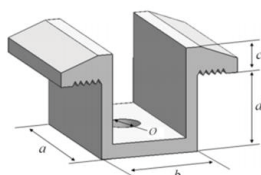
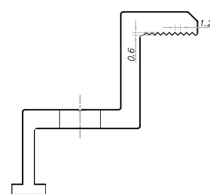

Figure 1
Figure 2 Schematic Diagram of
① Place the PV module on two racks (not provided). Which must be made of stainless steel or be treated with corrosion protection (e. g. hot-dip galvanized treatment). Each PV module needs at least 4 clamps to fix. During installation, please do not let the clamp directly contact the glass and deform the frame, otherwise it will result in PV module damaged.
② Be sure to avoid the shading effect of the PV module due to the shadow formed by the clamp. The drain hole shall not be covered by the clamp. The clamp must have an overlap of at least 10mm with the PV module frame (the section of the clamp can be changed on the premise of ensuring the reliable installation of the PV module).
③ The upper surface of the rack in contact with the PV module frame shall be provided with a groove matched with the M8 bolt.
④ If there is no groove on the rack, a hole of appropriate diameter shall be drilled at the position mentioned above for bolt fixing.
⑤ Make sure that the installation sequence of each clamp is flat washer, spring washer and nut.
⑥ Figure 1 shows the middle mounting clamp, and Figure 2 shows the edge mounting clamp and its cross section view. The size of the middle and side pressing blocks are  $a \geq 50\text{mm}$ ,  $b \geq 26\text{mm}$ ,  $c \geq 5\text{mm}$ ,  $d \geq 28\text{mm}$ ,  $\square = 9\text{mm}$  and the recommended wall thickness  $\geq 4\text{mm}$ . When the bolts and screws are of Grade 8.8, the recommended tightening torque is 17-23Nm. Consult the installer or rack supplier for specific torque values.
⑦ In order to prevent the module from falling off from the frame after installation, it is recommended to select the clamp with patterned groove structures for edge and intermediate clamp with contact surfaces with frame A. The recommended number of groove structures is about 9, the distance between adjacent grooves is recommended to be about 1.2mm, and the groove depth is recommended to be about 0.6mm, as shown in Figure 2.